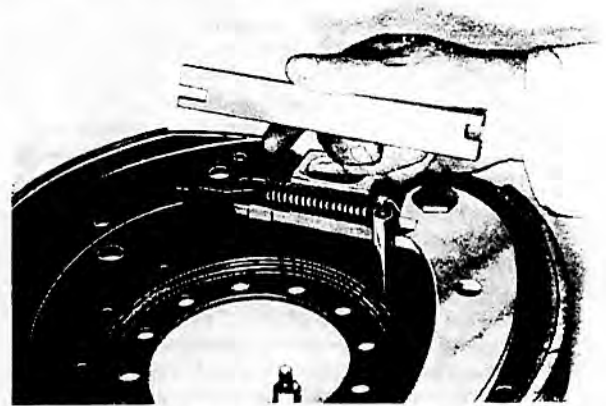

FIGURE 56 POSITION OF HANDBRAKE STRUT
1. Take a new pair of handbrake shoes and fit the handbrake lever (39) to one of them. Replace washer and lock nut (35). Apply a smear of Girling White Brake Grease to the pivot and bearing faces of the shoes.
2. Hook the strong black spring (10) onto the operating end of the shoes, and press the shoes over the anchor block so that the lever is on the bottom shoe when the brake is fitted to the tractor.
3. Pull apart the ends of the shoes so that the handbrake strut (11) can be inserted in the slot in the lever and in the opposite shoe. The strut must be fitted the correct way around (see Fig. 56).